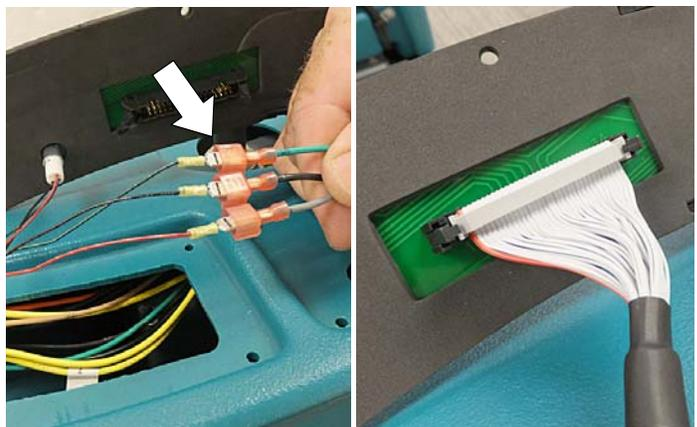

Fig. 9
- Connect the ec-H2O harness wires to LED light (green to green, black to black and red to gray) (Figure 9). Plug the existing wire connector into new panel as shown. Using the existing mounting screws, fasten new instrument panel to steering column housing